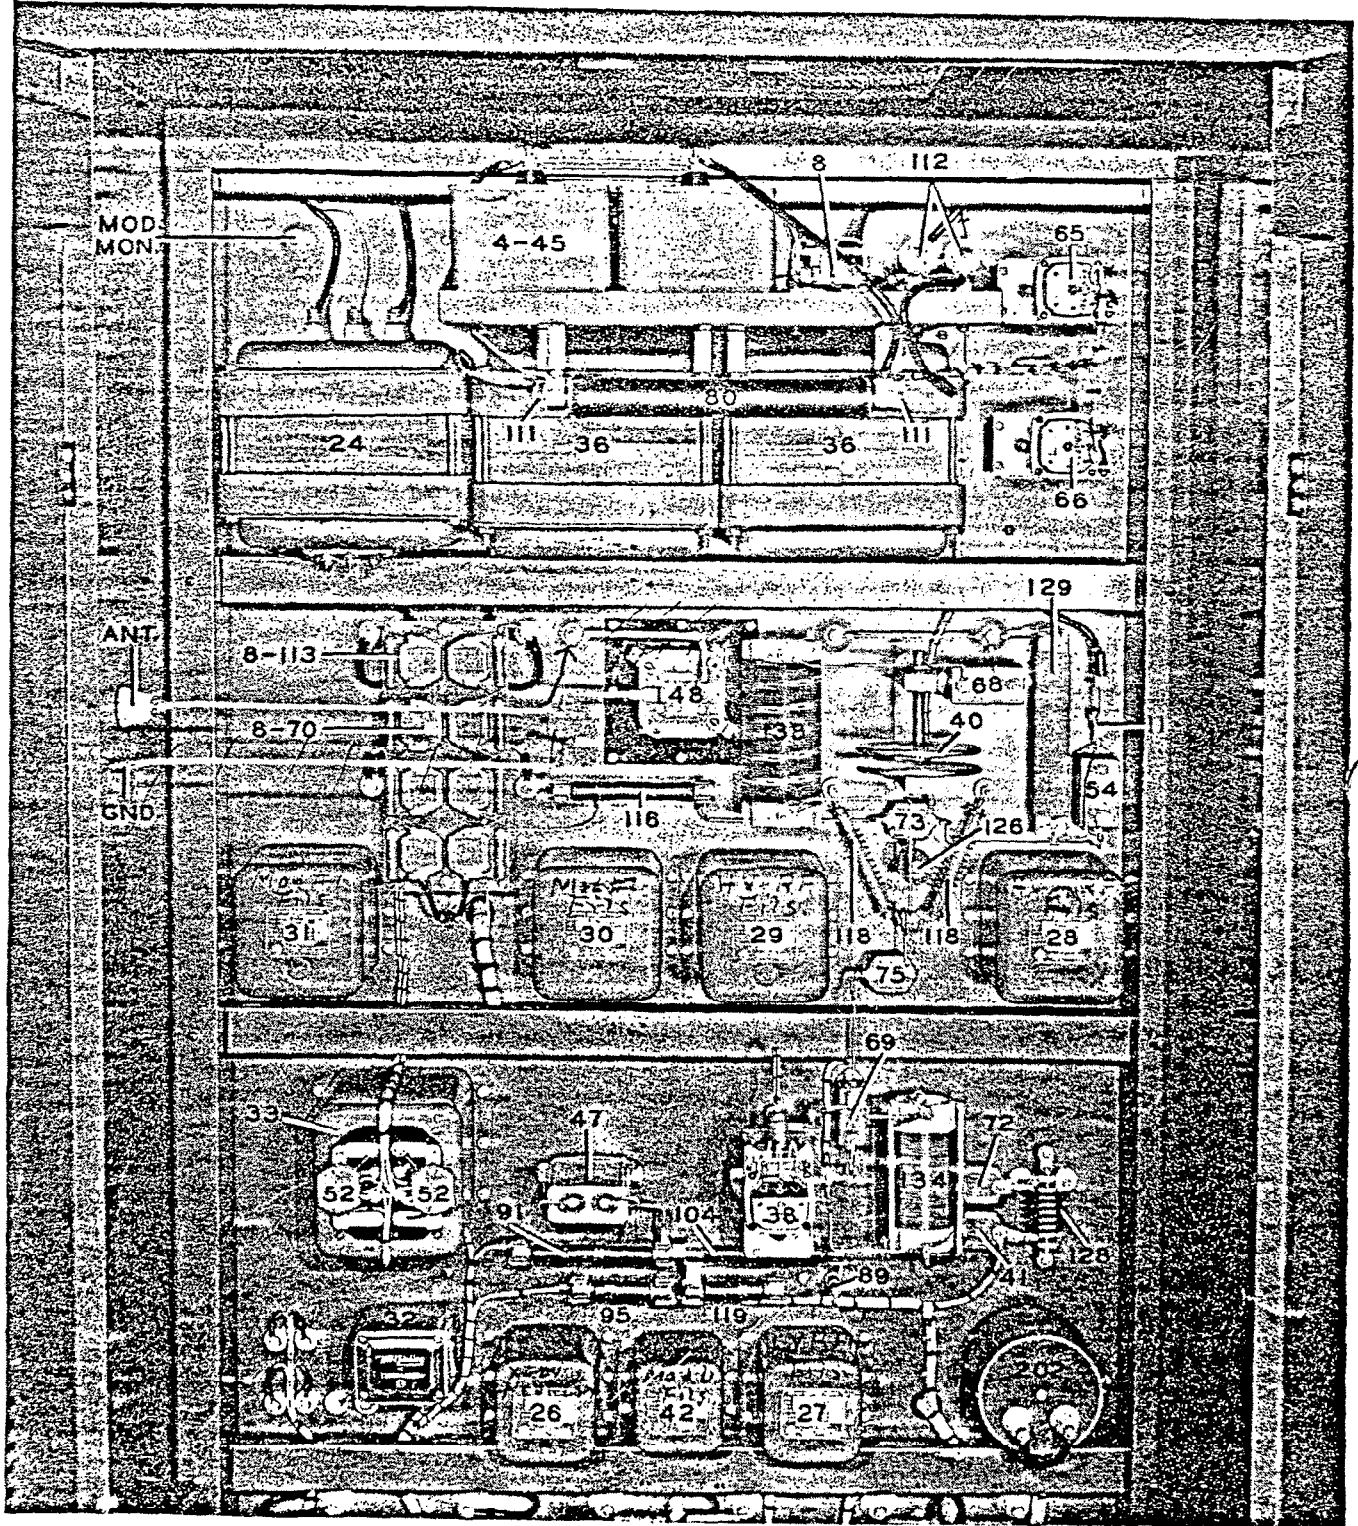

Figure 3-2. 300G Transmitter — Top Rear View
Refer to Figures 3-2, 3-3 to simplify placement of components that were removed when the equipment was prepared for shipment. The vertical chassis has been securely braced for shipment and before the braces are removed the bolts provided for securing the chassis in the cabinet should be inserted and tightened. When the vertical chassis has been secured in place, the high voltage transformer should be placed over the locating pins provided in the bottom of the transmitter cabinet. The modulation transformer and the modulation choke should be placed and fastened securely with the stud bolts provided for the purpose. All leads have been properly marked with tags and little difficulty should be had in making the proper connections.
(6) ANTENNA TERMINATION. — The 300G Transmitter is intended for use with an external antenna tuning unit to which it is connected by means of a concentric transmission line. The transmission line may be carried up the cabinet channel and the outer conductor or ground connection fastened securely to the transmitter ground terminal. The inner conductor of the line should be connected to the 1¼" ceramic bushing terminal located near the top of the cabinet.
(7) MONITORING CONNECTIONS. — The monitoring connection should be made to the Isolantite feedthru located near top of 1100N Vertical Chassis. (Refer to figure 3-2 for exact location of terminal.) A twisted pair should be used connecting one wire to terminal and the other to any convenient chassis ground.